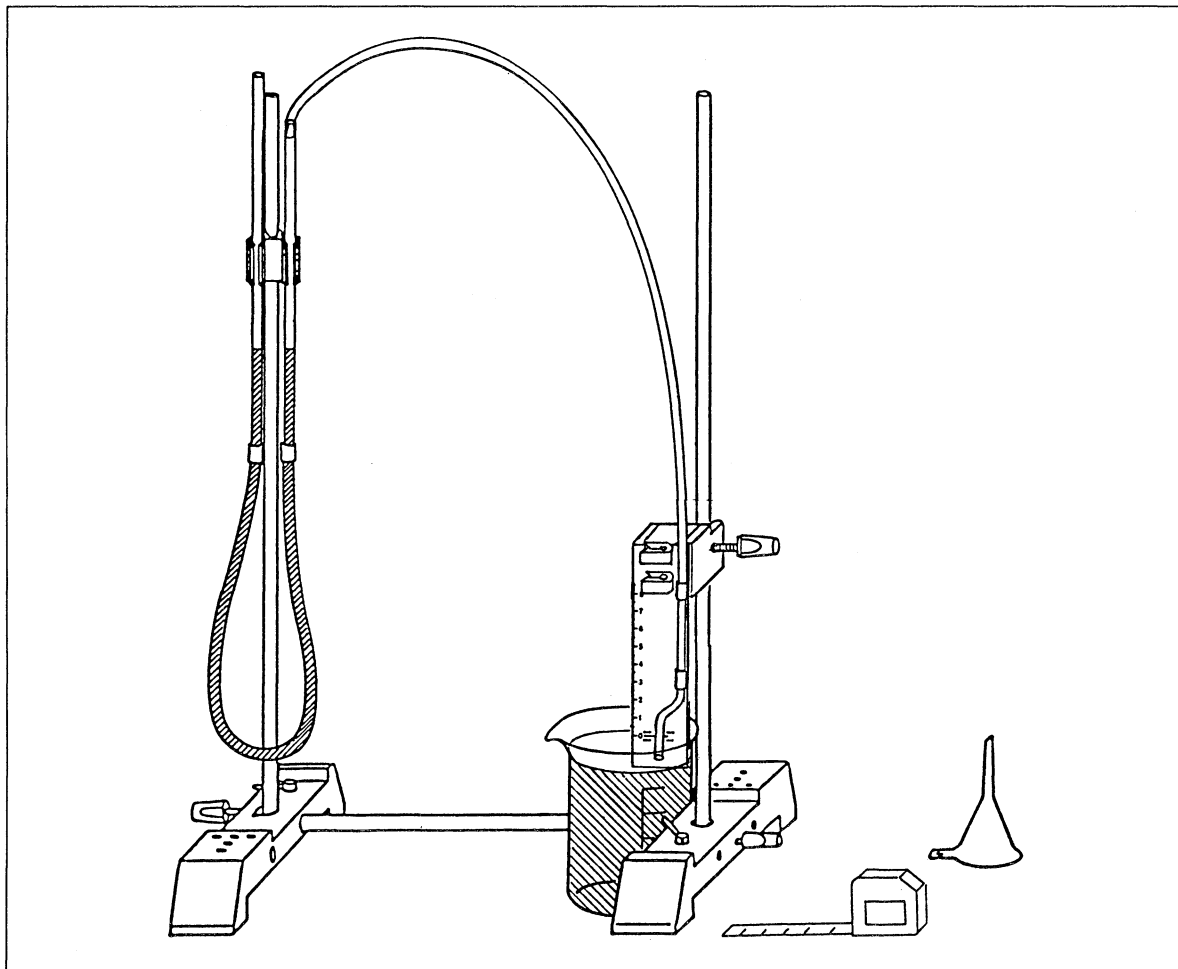

Fig. 1 Setup for investigating hydrostatic pressure
1. Set up the stand as shown in fig. 1.